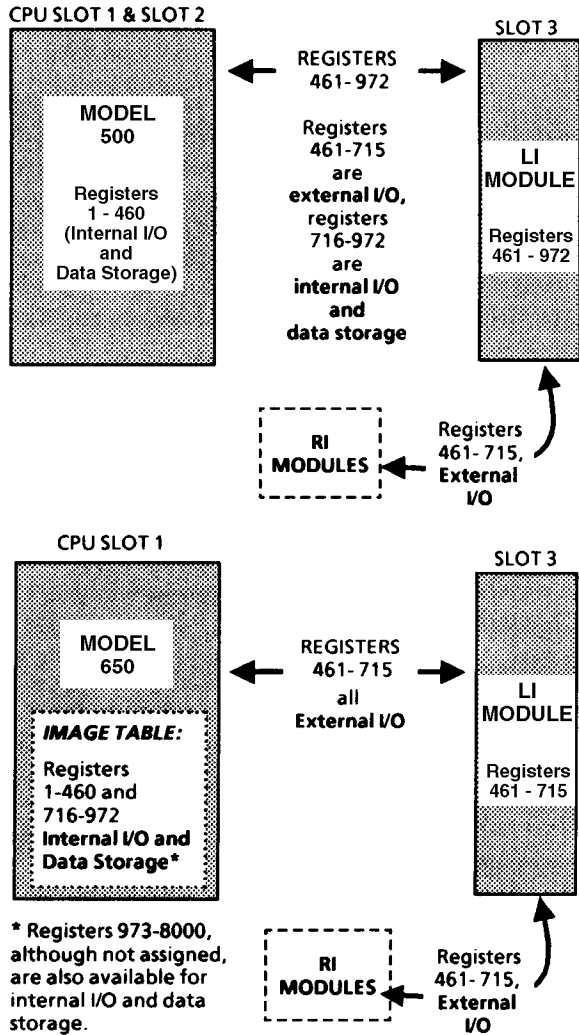
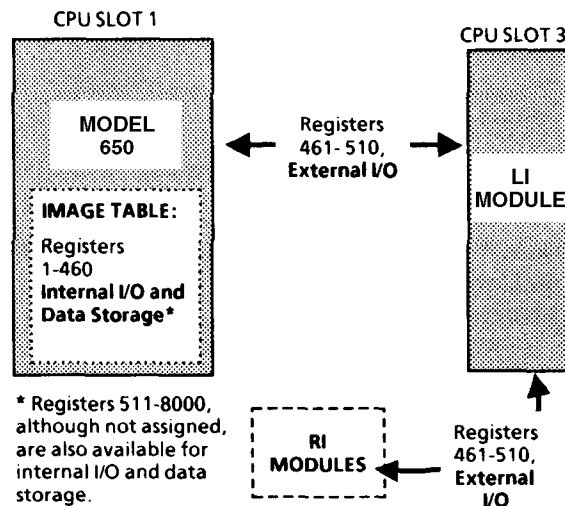

Figure 3.3 Rack Addressing, Model 650 vs 500
Figure 3.3A Model 650 Rack Addressed with 50 Remote Registers
The Model 650 can use programming and rack addressing configurations designed for other SY/MAX processors. An example of how this is accomplished is shown in Figure 3.3.
Refer to Figure 3.3. A common Model 500 configuration is to assign the first 460 registers to slot 1, and registers 461 through 972 to a Local Interface in slot 3. *External I/O* registers in this configuration begin at register 461 and could extend up to register 715 (although consuming all 255 external registers, the maximum for a single Local Interface, would be unusual).
The example Model 650 configuration pictured in Figure 3.3 shows the absolute maximum number of registers (255) being transferred between the processor and the Local Interface module. The throughput of this example could be improved substantially if only the registers associated with actual drops are transferred between the Model 650 and Local Interface, as shown in Figure 3.3A.
If only 50 remote registers need be remotely addressed, the best configuration of the Model 650 shown in Figure 3.3 that would NOT require the re-addressing of registers in the program, appears as shown in Figure 3.3A. This is accomplished by assigning 460 registers to CPU slot 1, and 50 registers (461-510) to CPU slot 3. Registers above 510 would not need to be assigned, but would still behave as storage registers.